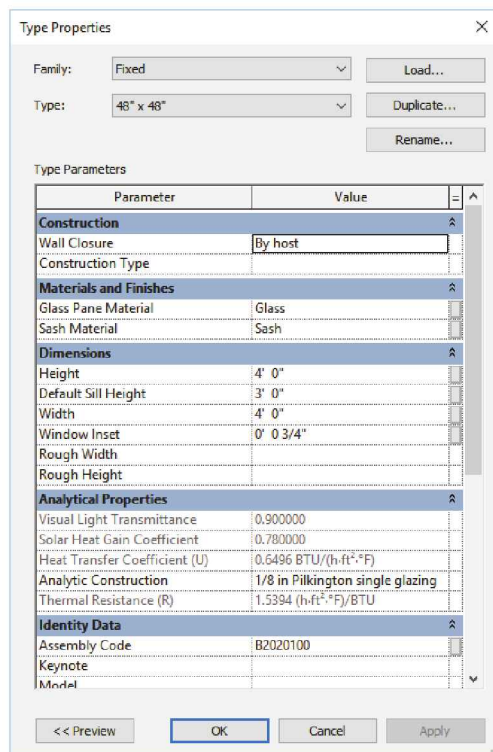

FIGURE 5-4.14 Window type properties
18. Make sure the *Width* and *Height* are both set to **4'-0"** (Figure 5-4.14).